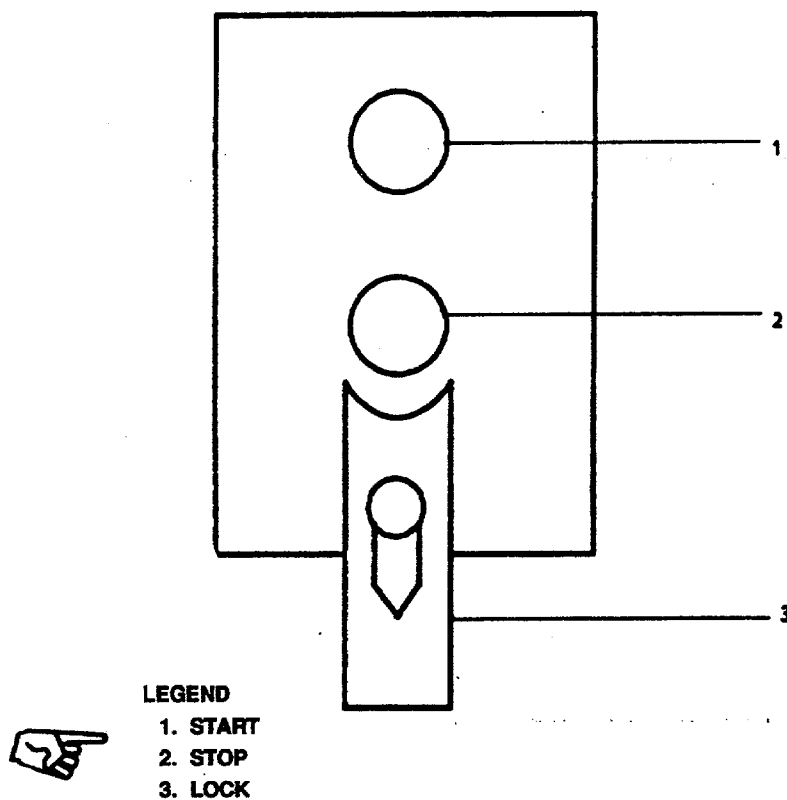

FIGURE 2-170. Fuel Oil Transfer Switch.
- (10) Operate No. 1 XFR PUMP by pressing START Push Button (1, FIGURE 2-170), and observe tank level indicator (FIGURE 2-168) until desired amount of fuel has been transferred. Press STOP pushbutton (2, FIGURE 2-170).
- (11) Close suction valves of tank that fuel was pumped from.
- (12) Close supply valve of tank that fuel was pumped to.
- (14) Open FO-44, DISCH-NO. 2 XFR PUMP (3).
- (15) Follow steps 2-18b(3) through 2-18b(9Xk).
- (16) Operate NO. 2 XFR PUMP by pressing START Push Button (1, FIGURE 2-170), and observe tank level indicator (FIGURE 2-168), until desired amount of fuel has been transferred. Press STOP Push Button (2, FIGURE 2-170).
- (17) Close suction valves of tank that fuel was pumped from.
- (9) Open FO-49, PUMP SUCT PRESS GAGE (8).
- (10) Align tank to be drained as follows:
- (i) Operate NO. 1 XFR PUMP and NO. 2 XFR PUMP by pressing START Push Button (1, FIGURE 2-170) on TYPE -I Motor Switches, and observe tank level indicator until fuel has been removed. Press STOP Push Button (2).
- (11) Close all valves in Fuel Oil Filter, Transfer, and Supply Piping System.
- (12) Disconnect fueling hose from deck connection.